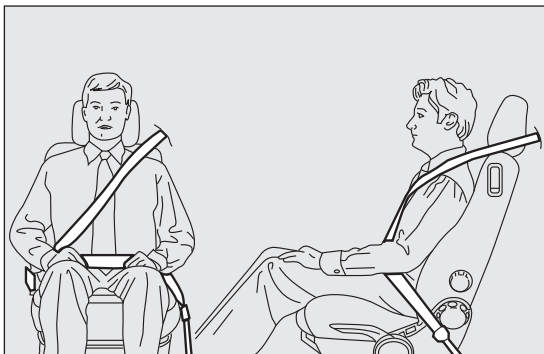

fig. 78
**IMPORTANT** The seat belt must not be twisted. The upper part must pass over the shoulder and cross the chest diagonally. The lower part must adhere to the pelvis (as shown in fig. 78) rather than the abdomen of the occupant. Never use devices (clips, clamps, etc.) to hold the seat belt away from your body.